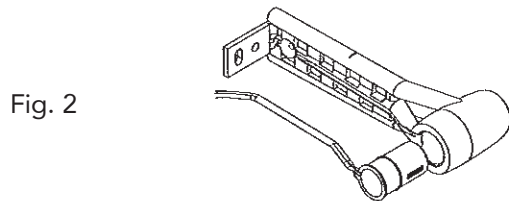
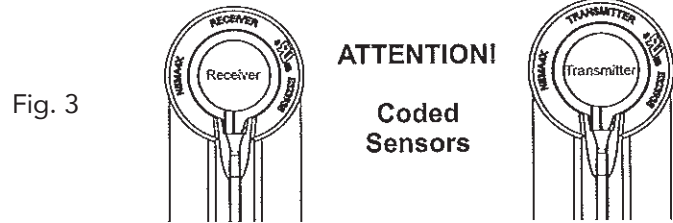

Fig. 2
Fig. 3
5. Plug sensors into flexible adapters as shown in Fig. 2. Please note that the 2 brackets are not identical. The receiver (Rx) must be installed into the receiver adapter and the transmitter (Tx) must be installed into the transmitter adapter (Fig. 3).